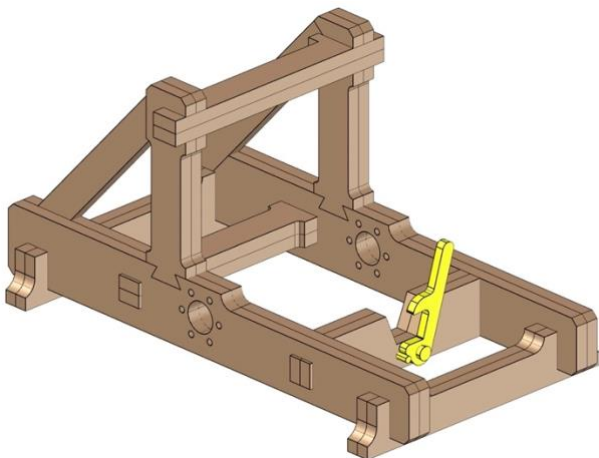

Fig. 23
- *Fig. 23* shows the completed process.